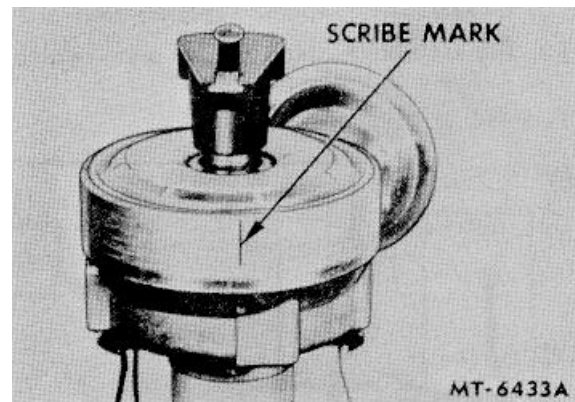

Fig. 10 Rotor Position Reference Mark
5. Scribe a mark on distributor housing in line with tip of rotor (Fig. 10) and note position of rotor and distributor housing in relation to surrounding engine parts as reference points for reinstalling distributor.